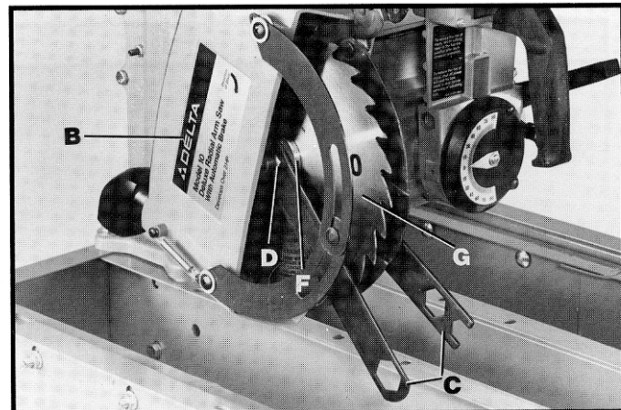
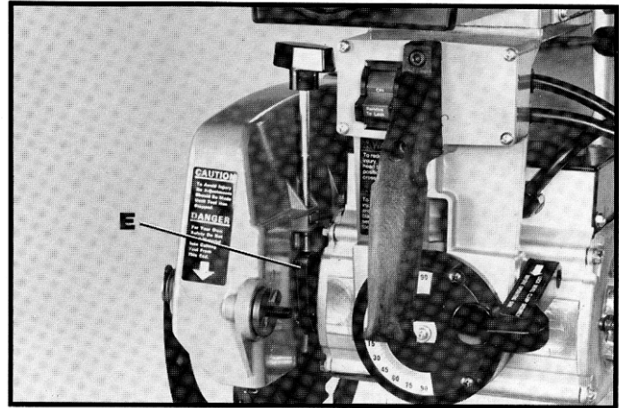

Fig. 19
Fig. 20
2. Loosen blade guard clamp knob (A) Fig. 18, and rotate saw blade guard (B) to the position shown in Fig. 19.
3. With wrenches (C) Fig. 19, supplied, loosen arbor nut (D) as much as possible. **NOTE:** Arbor nut has a left hand thread.
4. Lift cam (E) Fig. 20, which holds the blade guard (B) Fig. 19, in position and move the blade guard (B), outer blade flange (F) and blade (G) outward. Continue to loosen arbor nut (D) Fig. 19, until blade guard, outer blade flange and saw blade can be removed from the saw arbor.